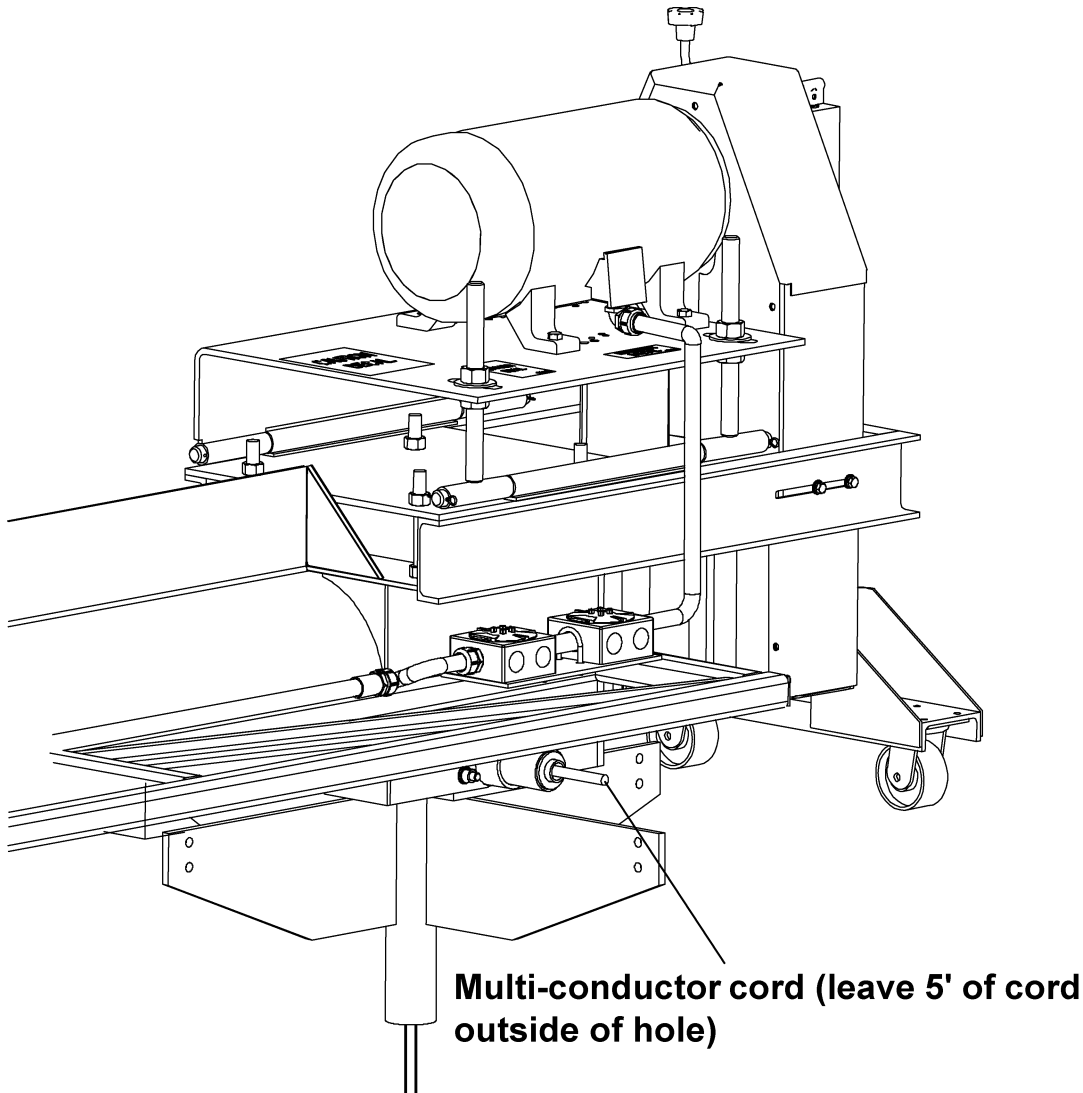

Figure 5AR
2. Feed the multi-conductor cord through the hole in the back of the sweep head section leaving five feet (5') of cord outside the hole. (See Figure 5AR.)
3. Feed the power cord through the pivot tube. (See Figure 5AS on Page 56.)
4. Align the hole in the backshield with the pivot tube and push the sweep onto the pivot tube. (See Figure 5AS on Page 56.)